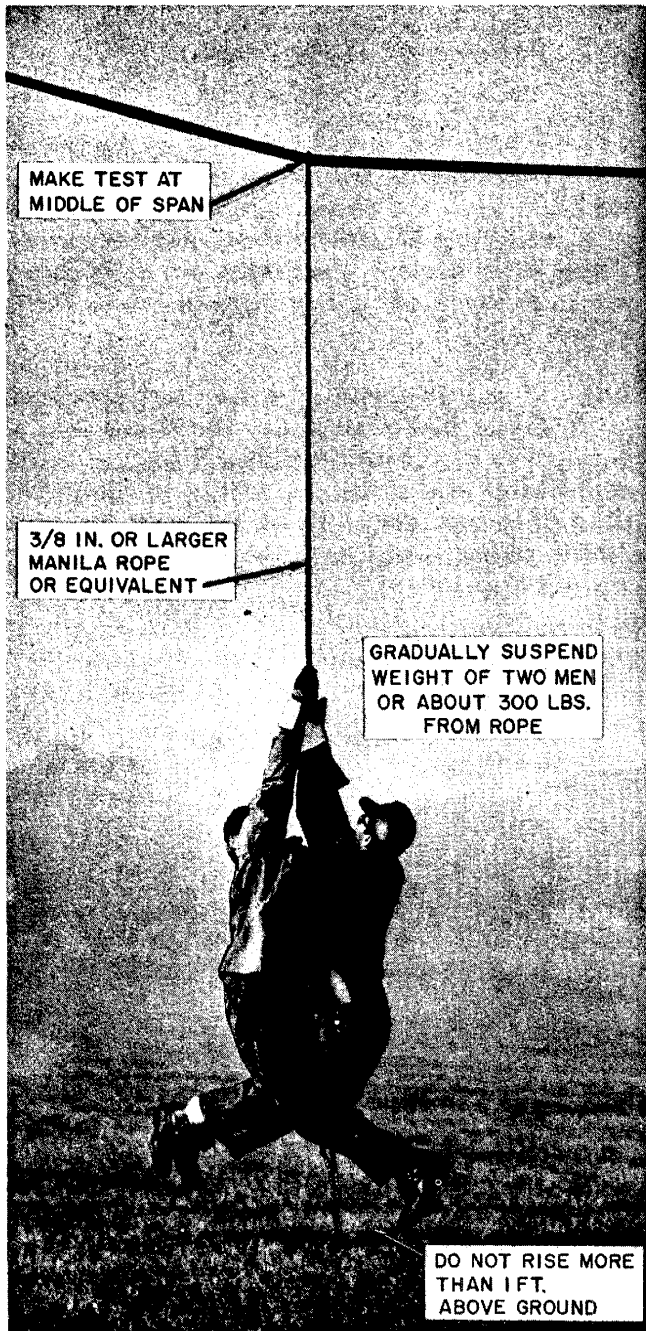

Fig. 2—Testing Strand Prior to Placing Aerial Platform or Cable Car
(3) Two workmen should grasp the two ends of the handline and gradually apply their full weight to the strand by lifting themselves slowly off the ground (Fig. 2).